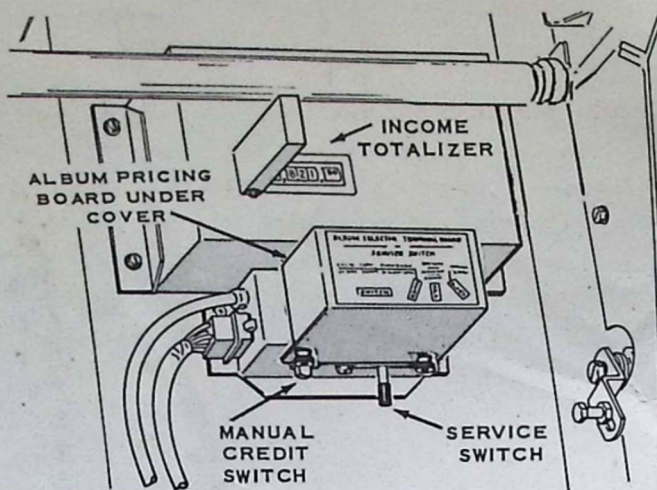
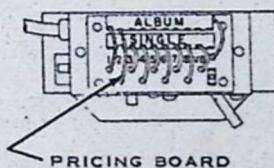

Figure 3. Service Switch & Manual Credit Switch.
Figure 10.
The Service Switch and Manual Credit Switch Assembly (together with the Album Selector Terminal Board) is mounted on the right hand side of the upper cabinet, to the right of the mechanism as shown in Figure 3.
Loosen—do not remove two (2) thumb nuts to release the album terminal board cover, Figure 3. The taper tab corresponding to the number group Figure 10, is connected for Album Play and conforms to the Pricing Tab set-up on the Electrical Selector. *NOTE: Taper tabs 1 and 2 are permanently soldered in place for "Album Play".*